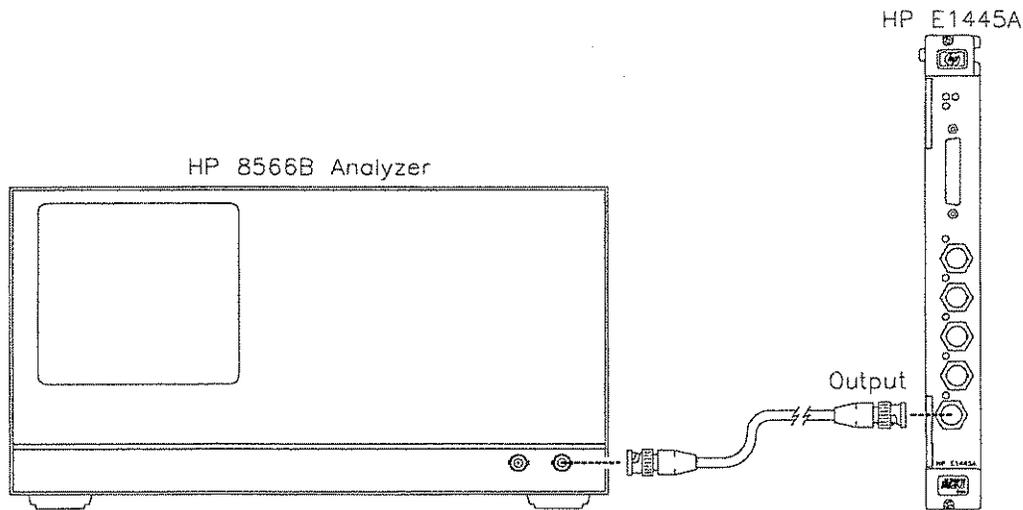

Figure 3-3. Skew DAC Adjustment Setup
- Connect the equipment as shown in Figure 3-3